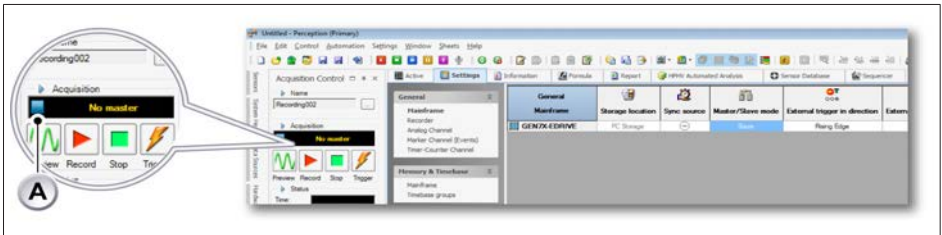

Fig. 15.26 Status - Searching for Master
- **Searching for master** (see Fig. 15.26)